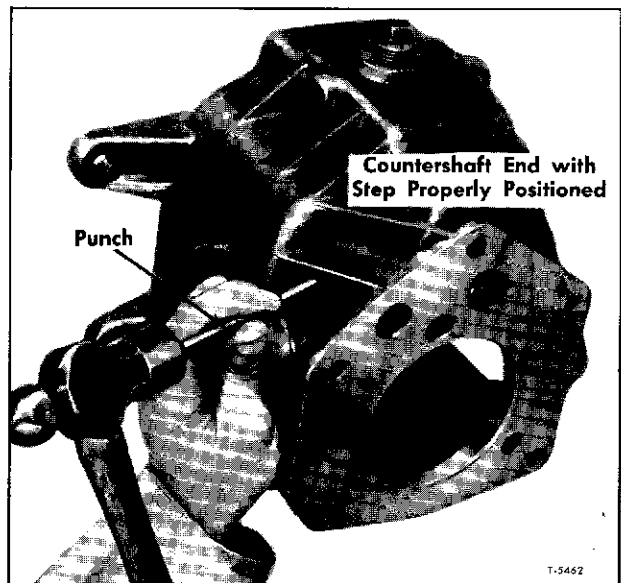

Figure 4—Driving Lock Pin into Reverse Idler Gear Shaft
10. Drive the idler shaft lock pin (12) into the shaft as shown in figure 4. This pin is shorter than the diameter of the shaft; the shaft may be slipped out when the pin is driven in.
12. Remove reverse idler gear (7), front and rear thrust washers (6), and thrust bearing (11) from inside of transmission case.
13. To remove mainshaft from extension or adapter on 4-wheel drive, expand the bearing retaining ring (21) using expander-type snap ring pliers. Tap the rear of the mainshaft with a soft hammer to drive the shaft, speedometer drive